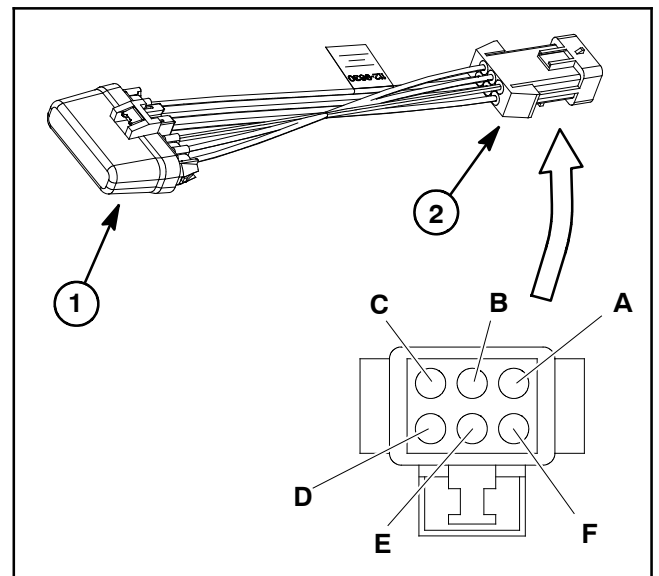

Figure 67
6. Using a multimeter, measure resistances between module connector terminals as follows (Fig. 67):